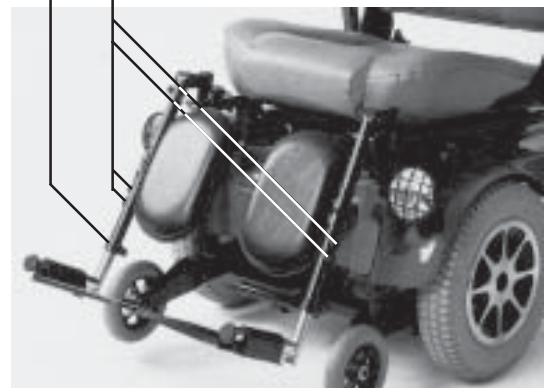

Figure 23. Elevating Leg Rests
1. Remove the two leg rest adjustment screws from the side of each leg rest extension. See figure 23.